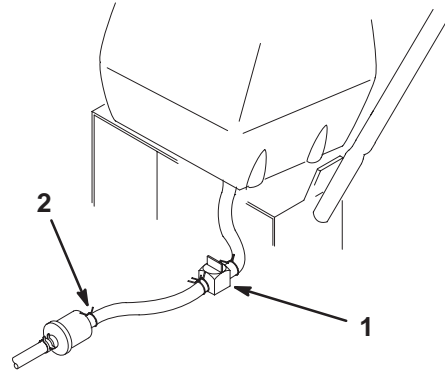

Figure 44
2. Close fuel shut-off valve at fuel tank (Fig. 44).
3. Squeeze the ends of the hose clamp together and slide it up the fuel line away from fuel filter (Fig. 44).
4. Pull the fuel line off the fuel filter (Fig. 44). Open fuel shut-off valve and allow gasoline to drain into a gas can or drain pan.
3. Close fuel shut-off valve at fuel tank (Fig. 44).
- Open fuel shut-off valve at fuel tank (Fig. 44).